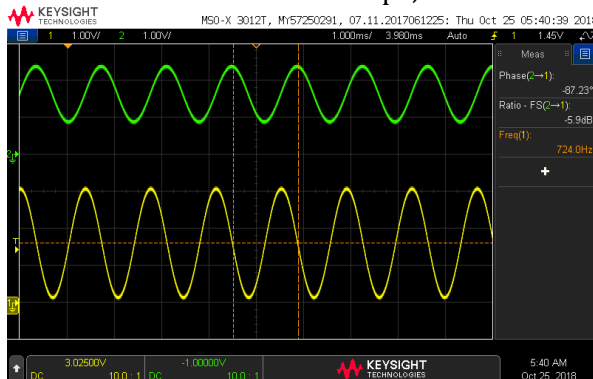

Figure 5: The input and output of the low-pass filter.
- Observe the oscilloscope, it should look something like Figure 5,